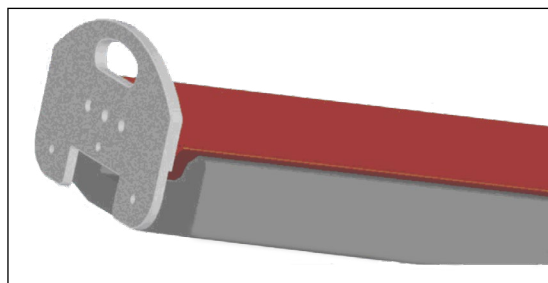

Fig. 3
1. Position CT Overlay on Siemens Table with the Foot End Latch Assembly Mounting Block a few inches from contacting Foot Plate and CT Overlay is centered on Siemens Table (Fig. 3).